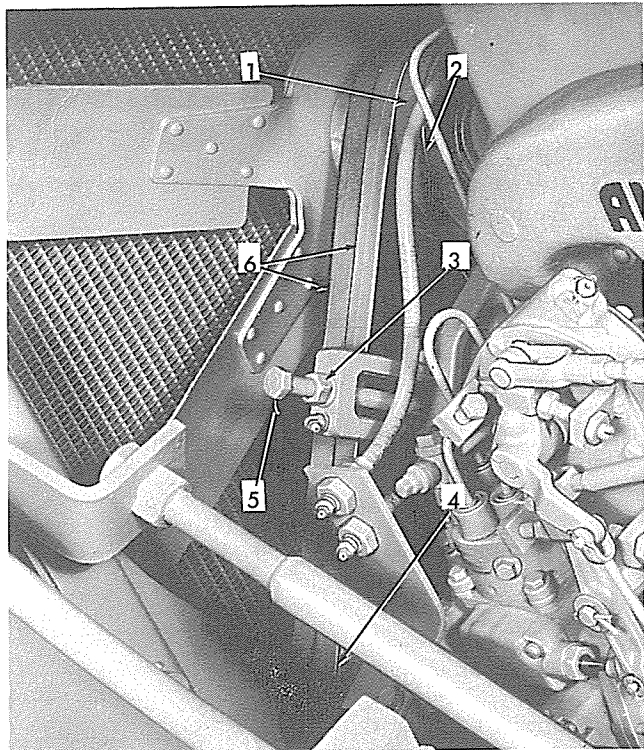

Fig. 4—Fan Belt Adjustment Location
1. TRACK-TYPE TRACTORS (Fig. 4)